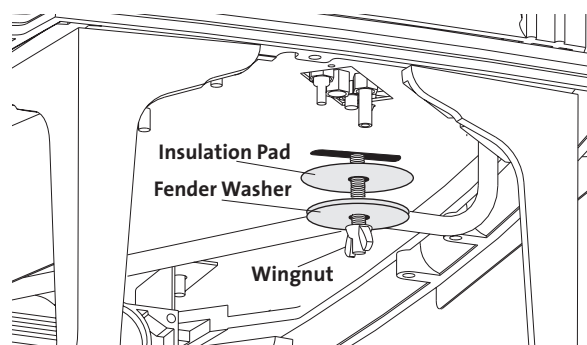

Figure 12. Locate and remove the Air Shutter wingnut from under the right side of the stove.
6. Reach under the stove and remove the Air Shutter wingnut from its stud. As you face the right side, it is the one closest to you. See fig. 12.
19. Adjust the Air Shutter. You will need to position the shutter to provide a gas/air mixture that will achieve the best flame picture with your particular installation. Start with the shutter stem at the half-way position in the slot in the bottom of the stove. See fig. 12. Pushing the stem back will restrict air, while pushing it forward will open the shutter and increase air. With some experimentation, you will find the shutter position that works best for your installation.